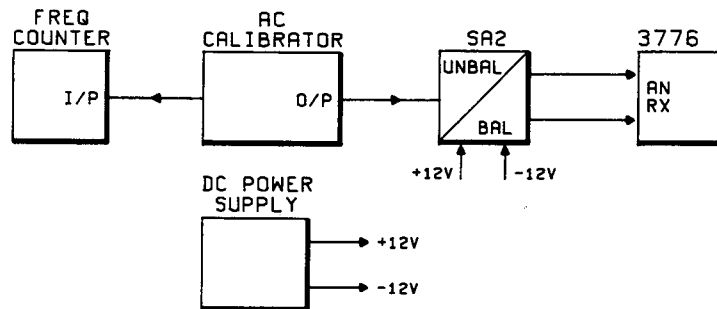

Figure 4-27 Analog Receiver Anti-Aliasing Filter Flatness Test Set-up
1. Connect the equipment as shown in Figure 4-27.